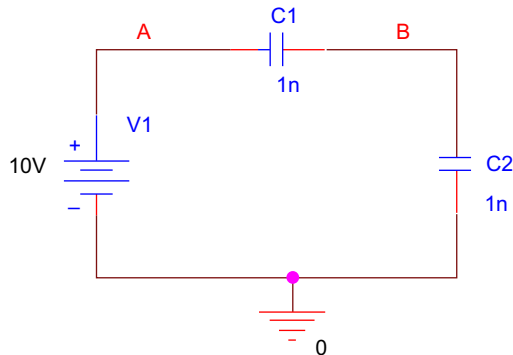

FIGURE 8.8
1. Draw the circuit in Figure 8.8 and create a bias point simulation, PSpice > New Simulation Profile. In the Analysis type select Bias Point and click on OK.